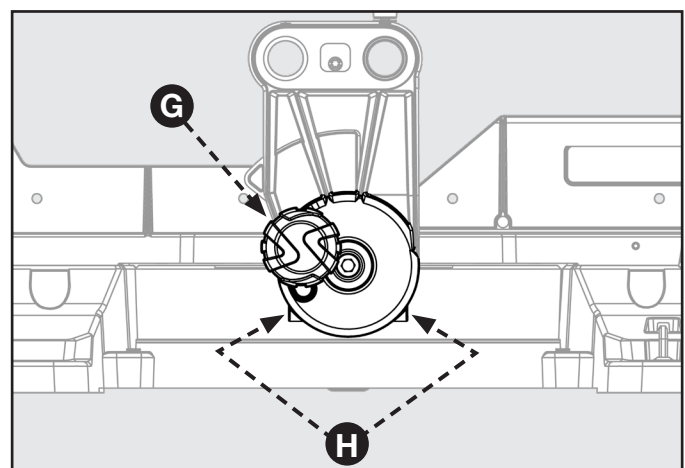

FIGURE 13
10. If the top or bottom of the blade face is not flush with the square, refer to Figure 13 below and perform the following steps.
11. Loosen bevel lock knob (G).
12. Adjust positive stop adjustment screw (H) to bring saw blade into alignment with the square. See "Positive Stop Screw" in the Adjustment section of this manual for more detailed instructions.